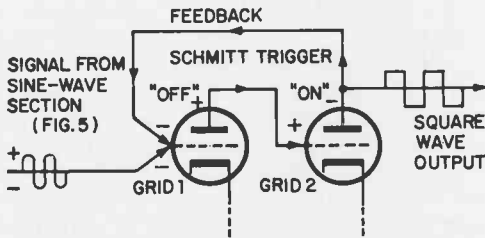

Fig. 9. Square wave section of an audio generator which uses a Schmitt trigger.
**Making It Square.** The audio generator can create square waves by utilizing the basic sine wave, then feeding it to a "Schmitt trigger" circuit shown greatly simplified in Fig. 9